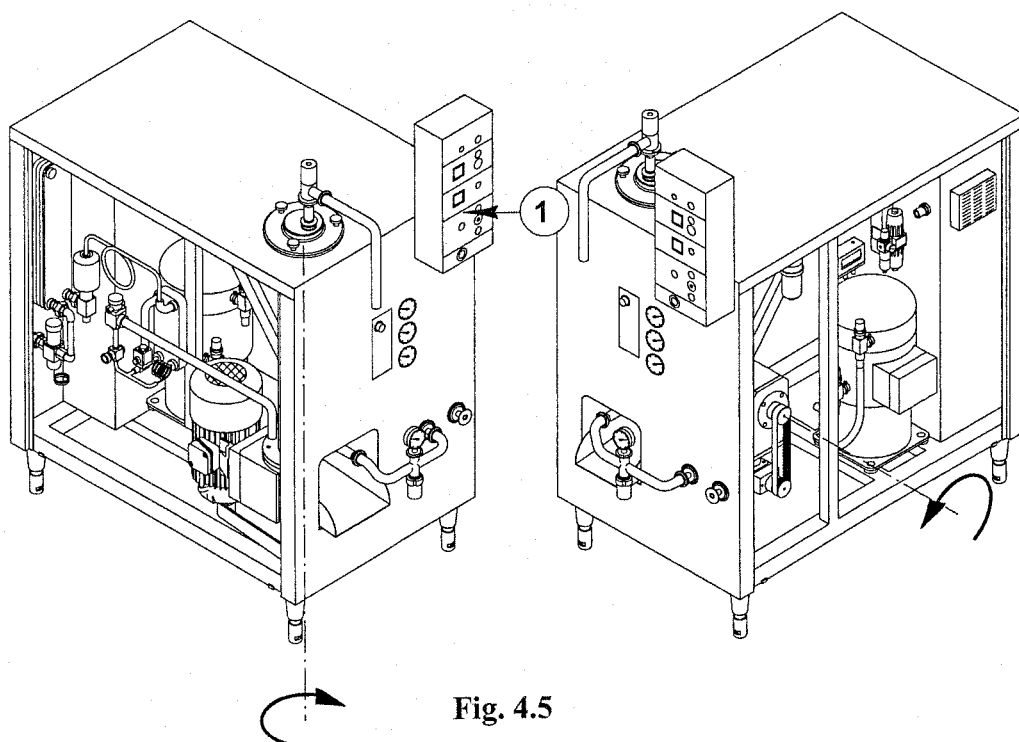

Fig. 4.5
- c. Turn the main switch on the machine's rear panel to the (I) position. Release the emergency button (1). Make sure that the panel switches on. In case of the alarm message: "phase seq. not correct", change the rotation direction of the phases by switching the positions of two wires in the machine's power supply cable on the distribution panel (refer to installation instructions); all motors will then turn correctly in the direction indicated by the arrows in figure 4.5.